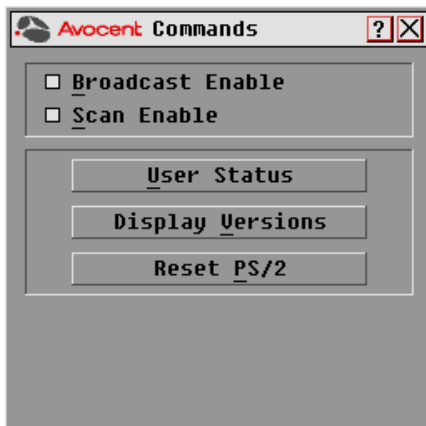

Figure 3.12: OSCAR Interface Commands Dialog Box
2. Click *Commands* to open the Commands dialog box as shown in Figure 3.12.
- a. Click *Commands* to open the Commands dialog box shown in Figure 3.12 on page 27.